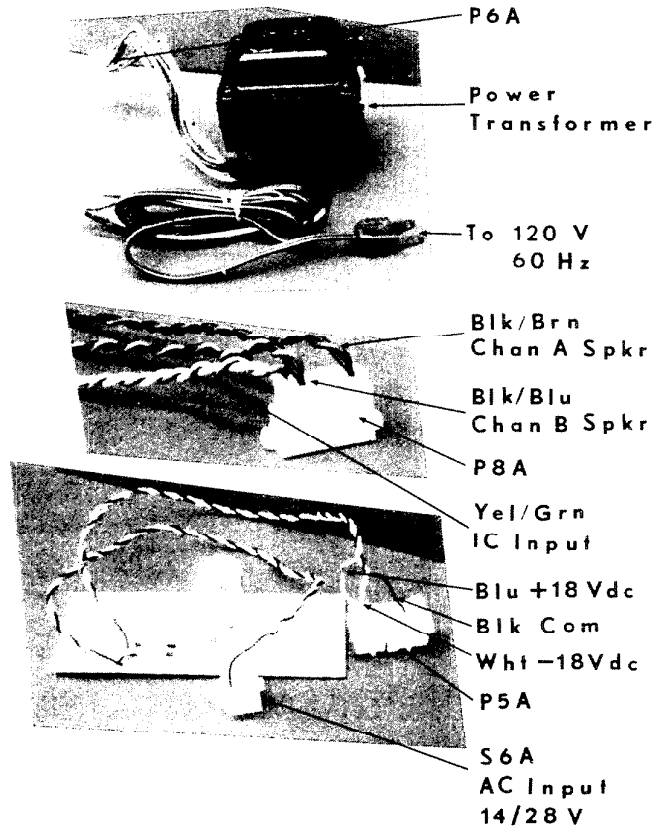

Fig. 1.37 — POWER SUPPLY SERVICE KIT COMPONENTS
3. The complete kit (Fig. 1.37) includes: